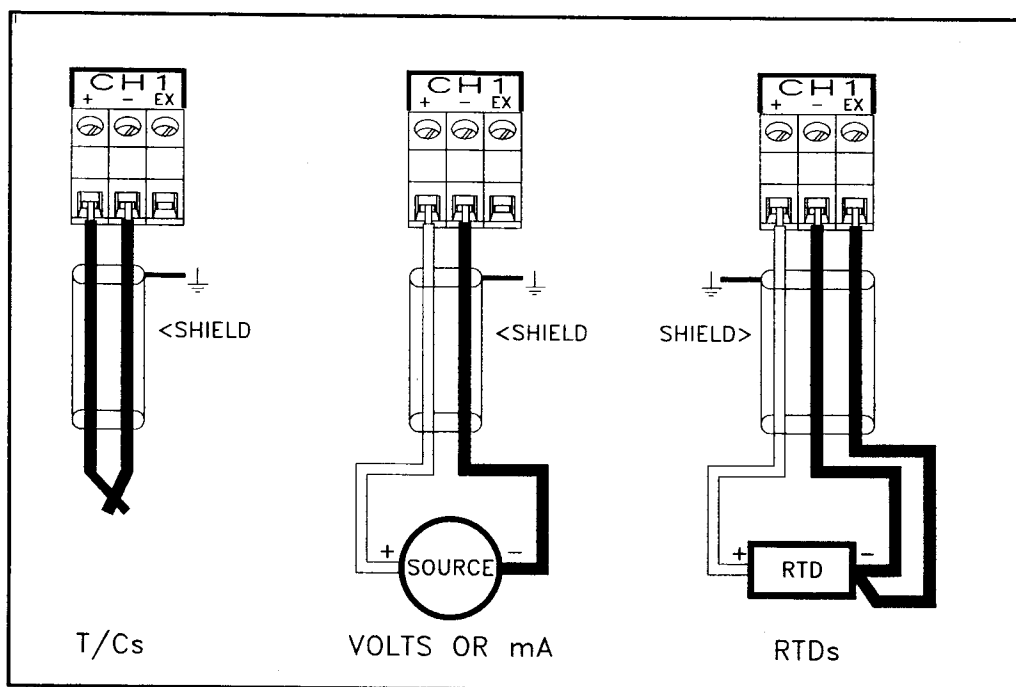

Figure 2-7 Transducer Connections
2.3.3.1 Thermocouple Inputs - Thermocouple input connections are made as shown in Figure 2-7 above - T/Cs.
2.3.3.2 Resistance Temperature Detector (RTD) Inputs - For RTDs, use three wires having equal resistance to eliminate errors resulting from lead length variations. Use 14 AWG copper wire for any long lead runs. See Figure 2-7 above for connections and refer to RTD manufacturing specifications to determine color code polarity.
Connect **CURRENT** and **VOLTAGE** inputs as shown in Figure 2-7 above.